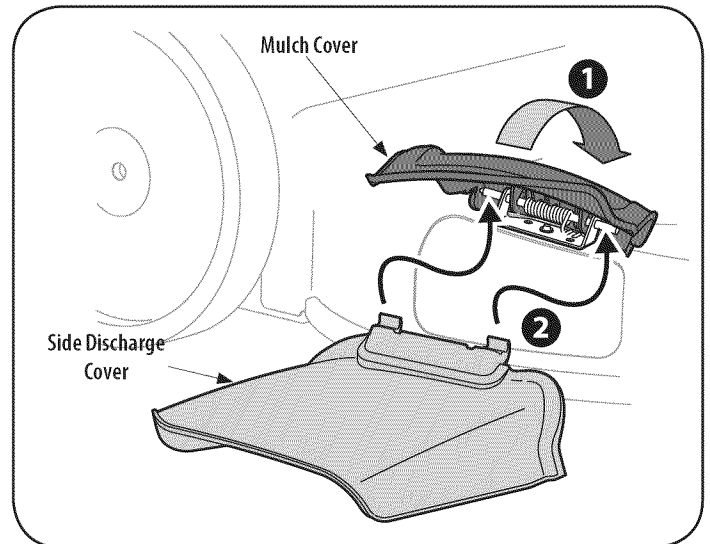

Figure 9
1. On the side of the mower, lift the mulch cover. See Figure 9.
2. Slide two hooks of side discharge cover under hinge pin on mulch cover assembly. See Figure 9. Lower mulch cover. Do not remove side mulch cover at any time, even when you are not mulching.